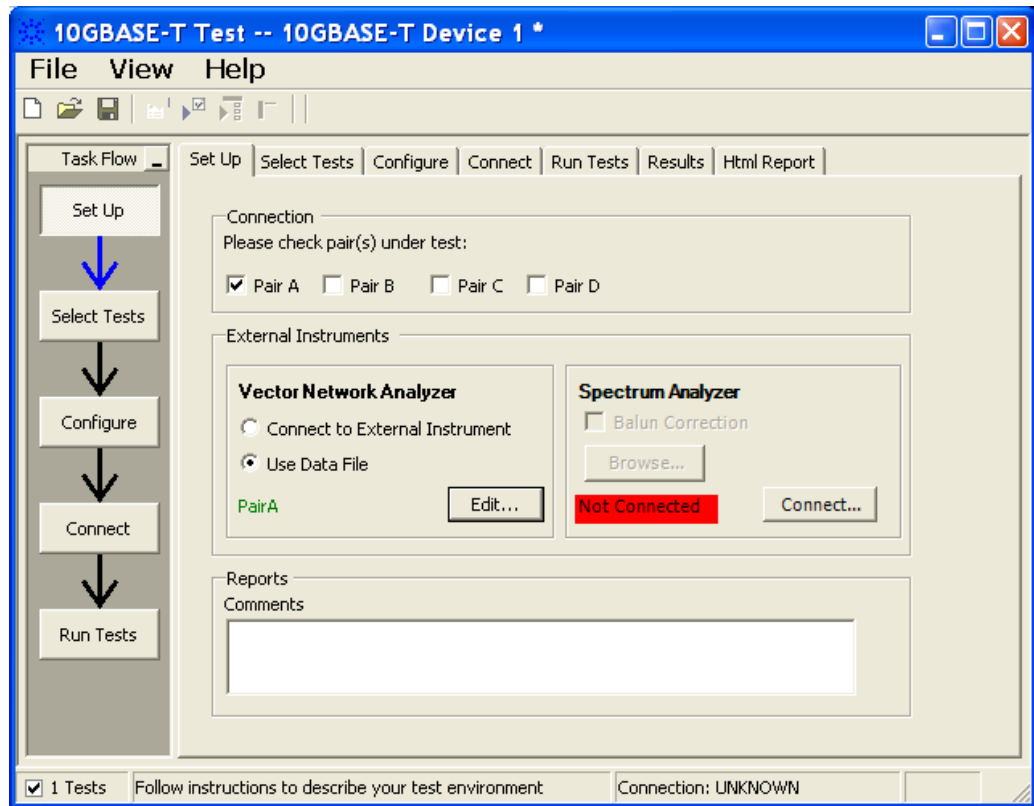

Figure 35 Setup page after application has detected the data file
- 13 Once the application detects the user file, it is indicated on the Setup page as shown in Figure 35 below.